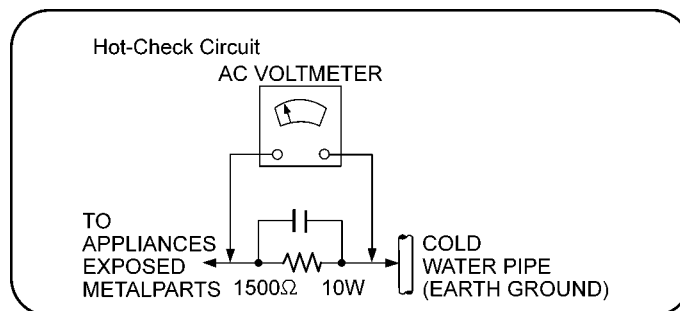

Figure 1
2. Connect a  $1.5k\Omega$ , 10 watts resistor, in parallel with a  $0.15\mu F$  capacitors, between each exposed metallic part on the set and a good earth ground such as a water pipe, as shown in Figure 1.